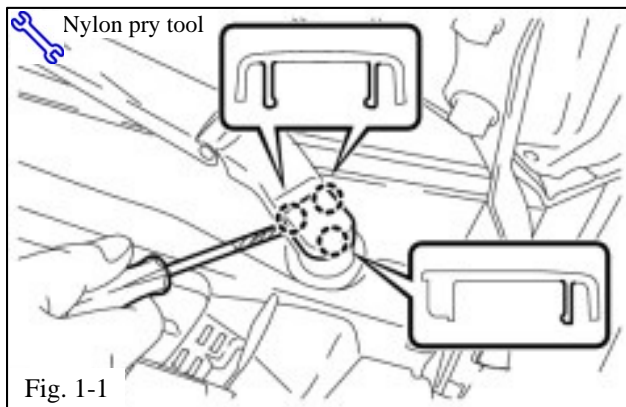

Fig. 1-1
- (1) Remove the wiper arm head caps with a nylon pry tool (Fig. 1-1).